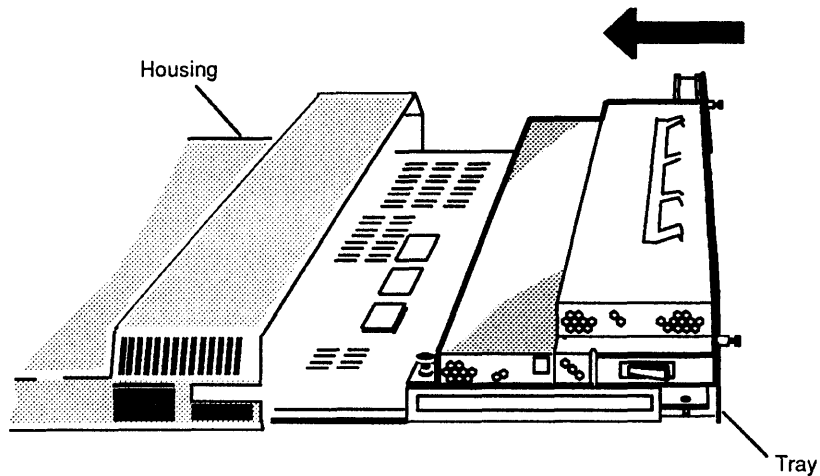

Figure 2-4 Replacing the Tray Housing
5. Push the tray assembly back into the housing as shown in Figure 2-4.